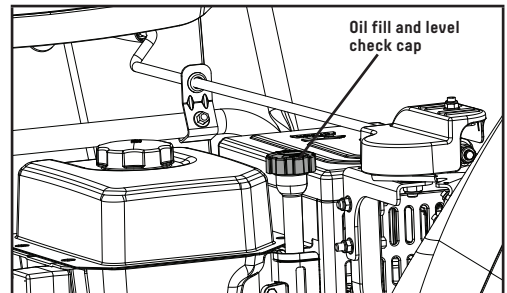

Figure 18A
2. Remove the oil cap/dipstick and wipe it clean (Fig. 18A).